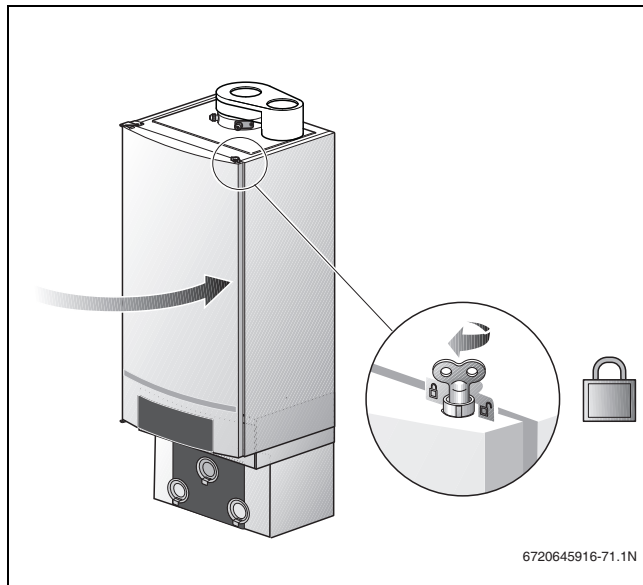

Fig. 75 Closing the boiler door
- Close the boiler door (→ fig. 75) and lock the fastener by turning the vent screw through ¼ rotation in a clockwise direction.